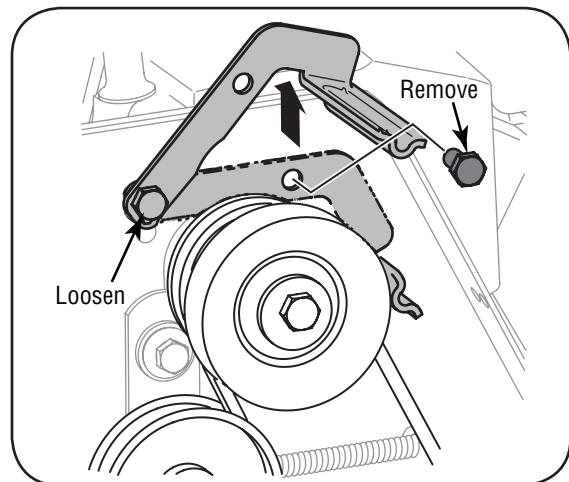

Figure 6-5
- a. Loosen the bolt shown in Figure 6-5 securing the belt keeper bracket and remove the other bolt.
- b. Push the belt keeper and bracket up off the engine pulley. See Figure 6-5.